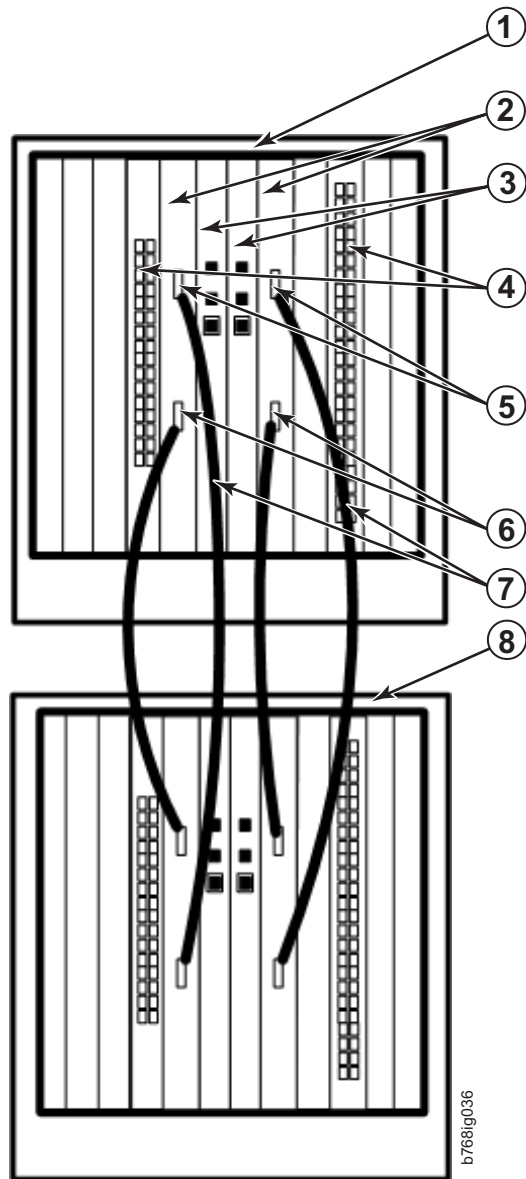
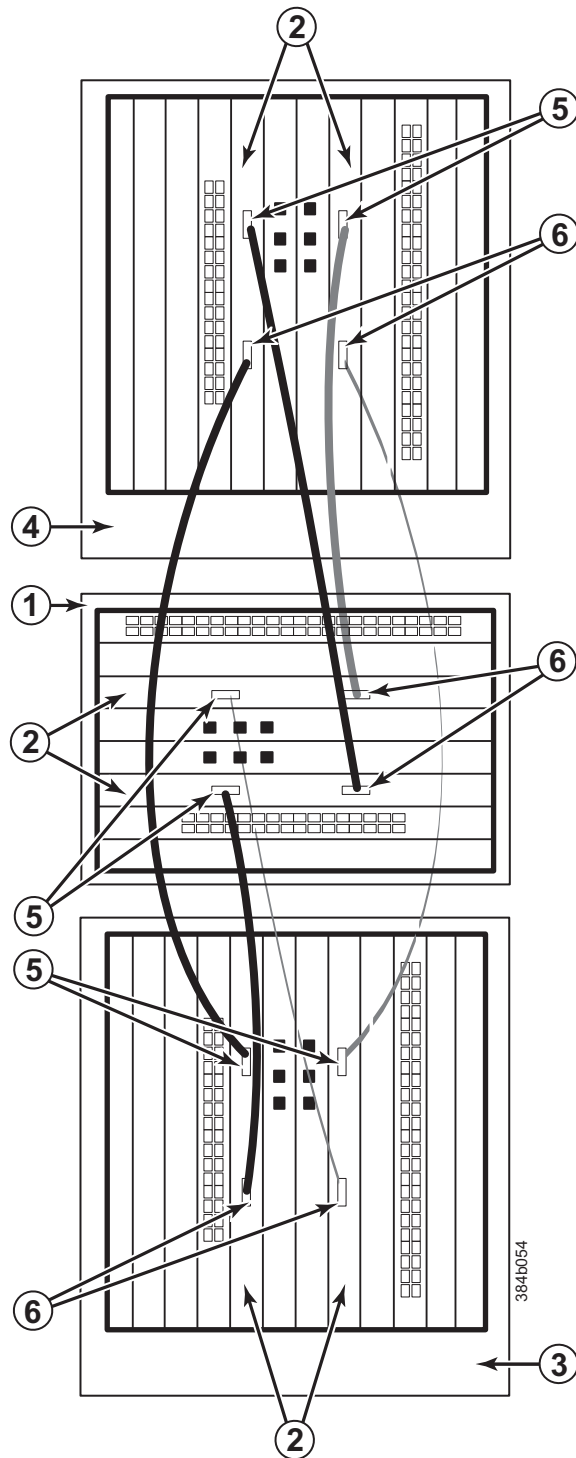
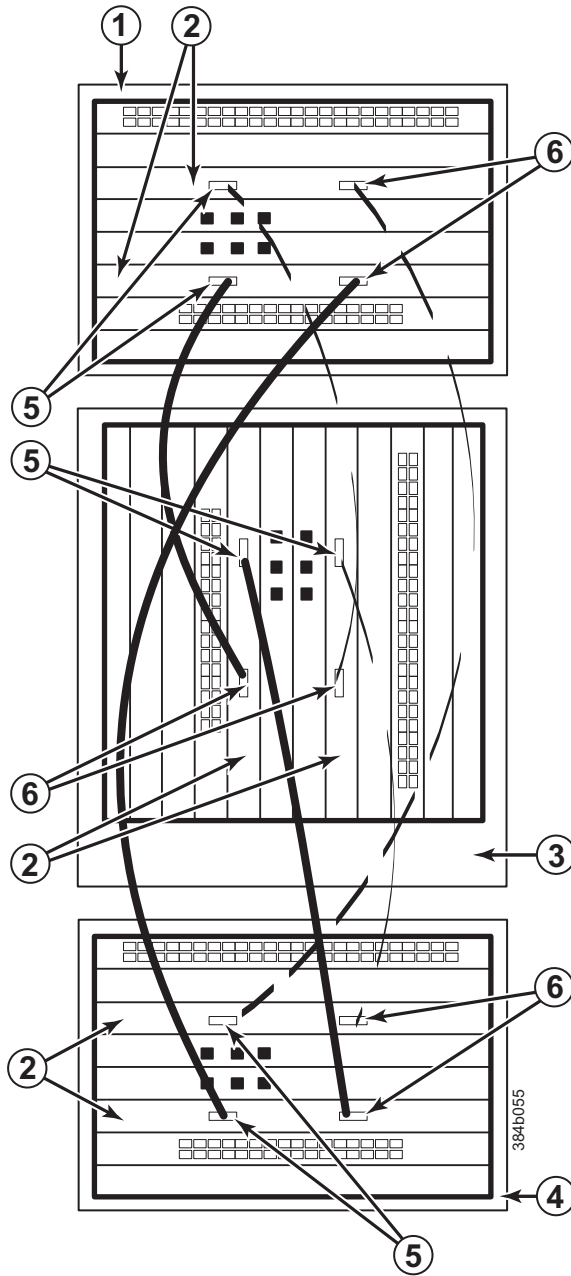
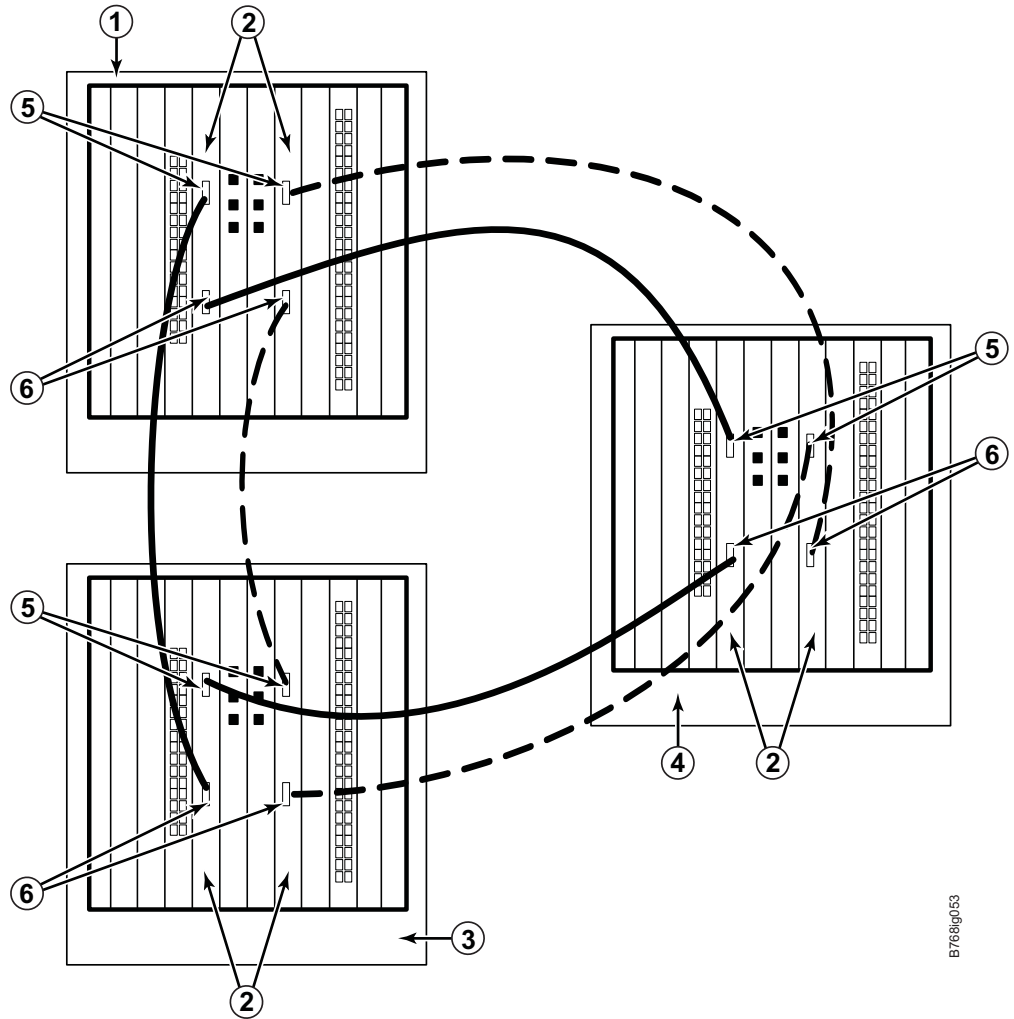

Figure 44. ICL cable connections between two SAN768B chassis
Figure 48. 3-way ICL cable connections between a SAN384B and two SAN768B chassis.
Figure 49. 3-way ICL cable connections between a SAN768B and two SAN384B chassis.
Figure 50. 3-way ICL cable connections between three SAN768B chassis
Figure 43 shows the two ends of an ICL cable. The ICL cables (2 meters long) and the ICL connectors on the CR8 core switch blades are color-coded and labeled for ease of installation. Figure 44 on page 101 through Figure 49 on page 106 show the acceptable cabling configurations for the inter-chassis link (ICL) feature. Connect the ICL cables in one of the configurations shown. The cables can connect ICL connector ports on the SAN768B core switch blades (CR8) or SAN384B core switch blades (CR4S-8). Figure 48 on page 105 and Figure 49 on page 106 show 3-way ICL connections between SAN768B and SAN384B models.
**Note:** For clarity, the two sets of cables are drawn differently (solid and dashed) in Figure 48 on page 105 through Figure 50. Also note that one set is connected to only the blades in the "low order" slots (slot 3 in the SAN384B and slot 5 in the SAN768B) and the other set is connected to the blades in the "high order" slots (slot 5 in the SAN384B and slot 8 in the SAN768B). Keeping the sets apart in this manner minimizes the cable confusion.